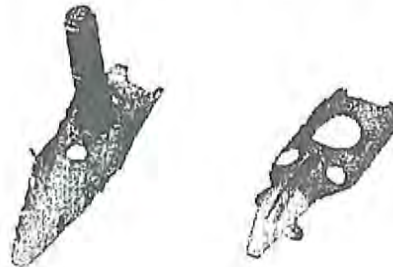

Figure 5 - Small Gator Clamp
2.07 The Small Gator Clamp, shown in Figure 5, is a reduced size version of the Gator Clamp and is recommended for cables less than 0.8 inches in diameter such as optical fiber cables. Like the Gator clamp, it also provides simpler installation than B bond clamps because it does not require slitting of the cable jacket except for cables less than 0.45 inches in diameter or for cables with polyethylene foam skin insulated metallic conductors. This clamp is furnished with two hex nuts with captured external tooth lock washers.